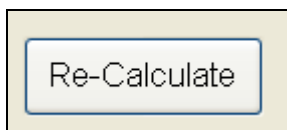

Figure 16.1.16B
11. Click on the **Re-calculate** button (Figure 16.1.16B).